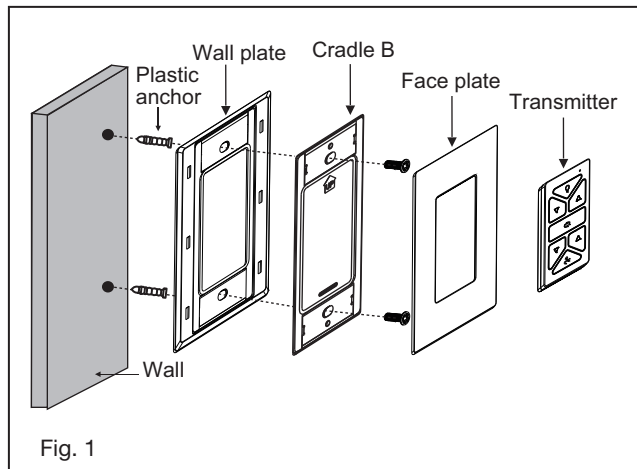

Fig. 1
- 3 Place the key holes on the LED assembly over the 2 screws previously loosened, turn the LED assembly until it locks in place at the narrow section of the key holes. Secure by tightening the 2 screws previously loosened and the one previously removed. (Fig. 1)
- 1 Select a desired location. Use the wall plate to mark the location of the mounting holes. Plastic wall anchors or mounting screws are needed for this application. (Fig. 1)